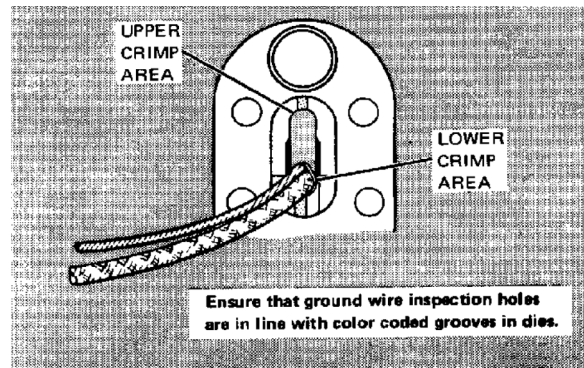

Figure 11
- Place ferrule with shielded wire and ground wire attached in lower crimp area of dies. Push ferrule all the way into tool. See Figure 11.